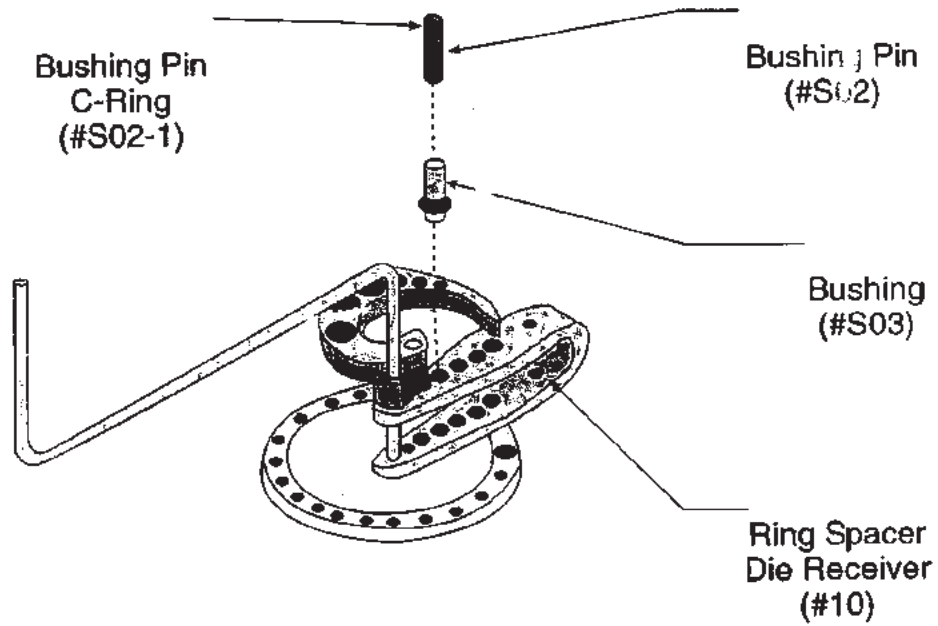

Figure 3 -- Bushing Assembly
Step 3: Attach the BUSHING (#S03) to the RING SPACER/DIE RECEIVER using the BUSHING PIN (#S02) as shown in Figure 3. Note the position of the BUSHING PIN C-RING (#S02-1).